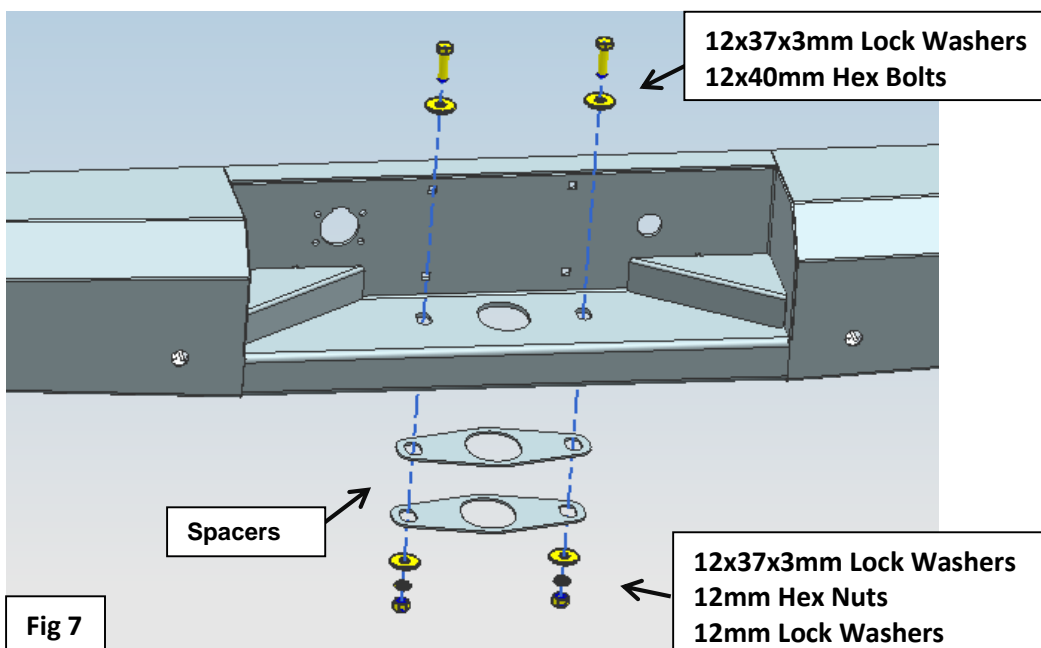

Fig 7
7. Connect the OEM trailer with Replacement Rear Bumper with the hardware, according to the gap between the bumper and the trailer, select suitable spacers and adjust the bumper (Fig 7).